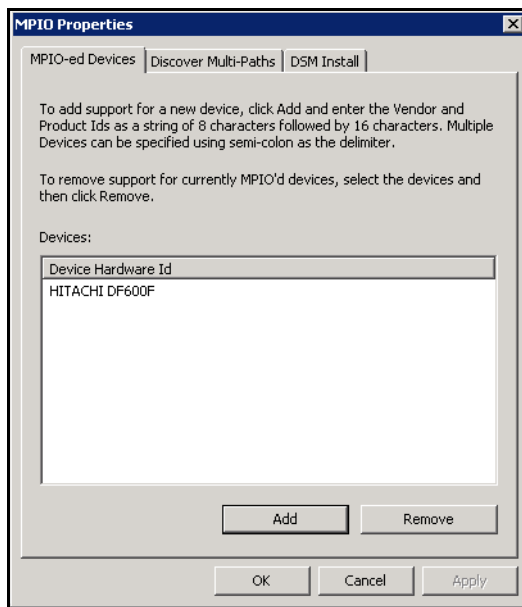

Figure 2-6: MPIO Properties Dialog Box with Hitachi Vendor and Product IDs
- c. Click **MPIO**. The **MPIO-ed Devices** tab of the MPIO Properties dialog box appears. In this panel, verify that the **Device Hardware Id** field shows the vendor and product IDs of your Hitachi MPIO hardware (as well as any other MPIO hardware devices that may be installed). See Figure 2-6.